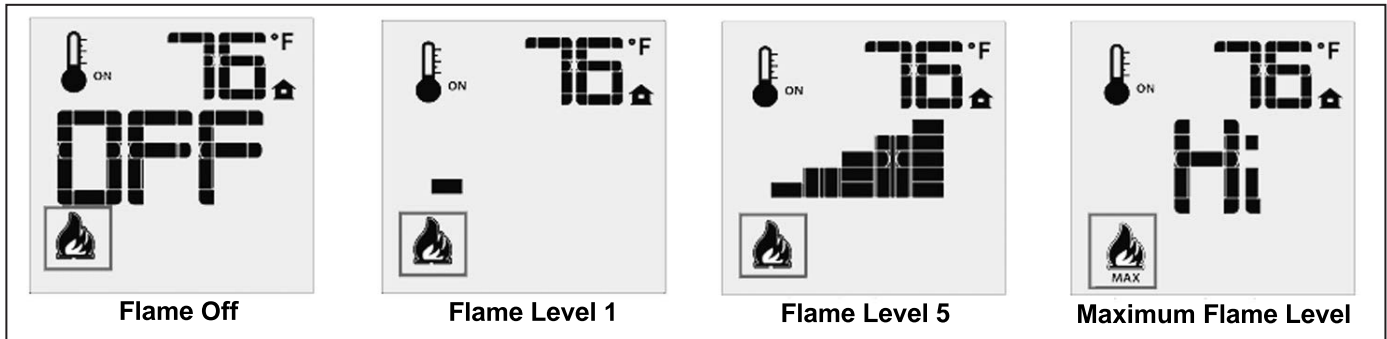

Figure 11: Remote Control's Flame Levels.
The Proflame 2 GTMF has six (6) flame levels. With the system on, and the flame level at the maximum in the appliance, pressing the Down Arrow Key once will reduce the flame height by one step until the flame is turned off. The Up Arrow Key will increase the flame height each time it is pressed. If the Up Arrow Key is pressed while the system is on but the flame is off, the flame will come on in the high position (refer to Figure 11 below). A single "beep" will confirm reception of the command.